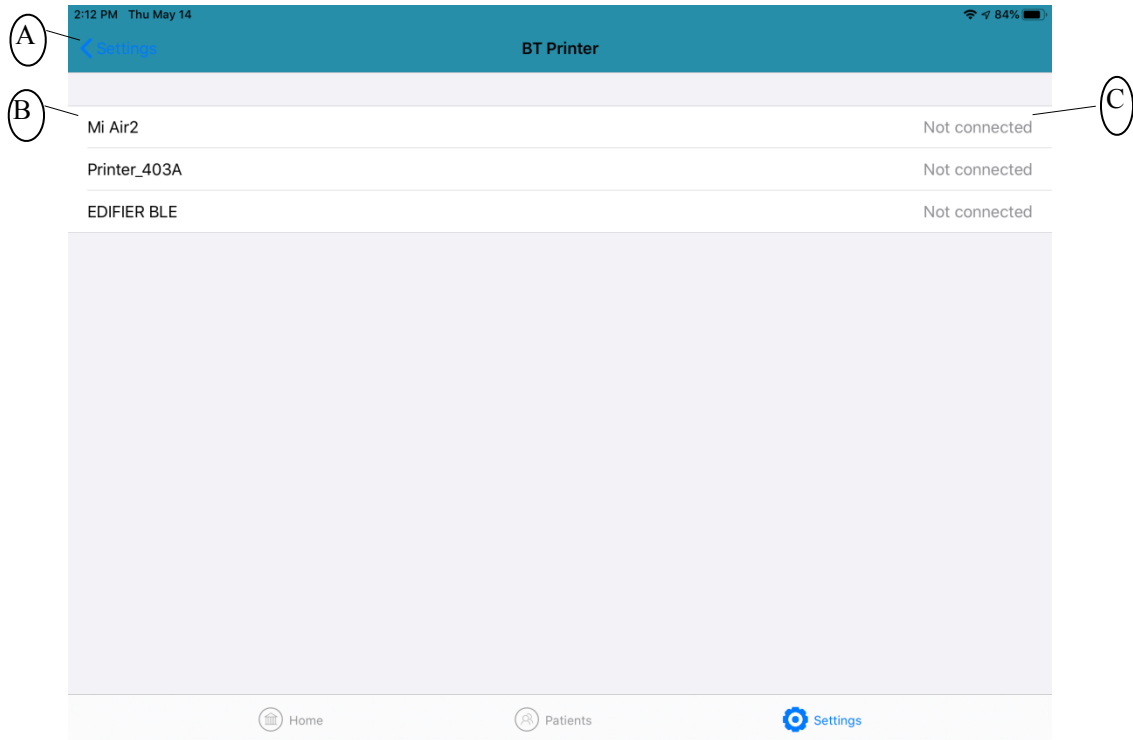

Figure 5-6-4 M4-HD Bluetooth printer options
1. Press bluetooth printing icon  on the main interface. A list of bluetooth devices pop up as shown in Figure 5-6-4.